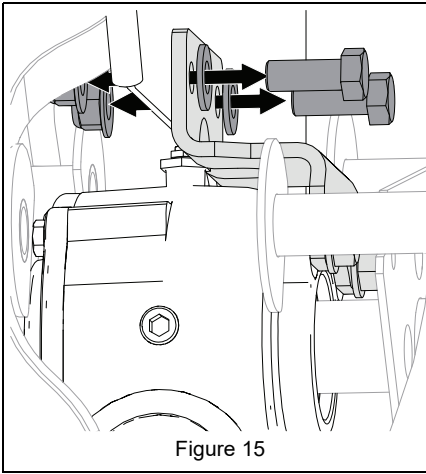

Figure 15
19. Remove and retain hardware securing gearcase support bracket to center plate. Remove bracket. See Figure 15.